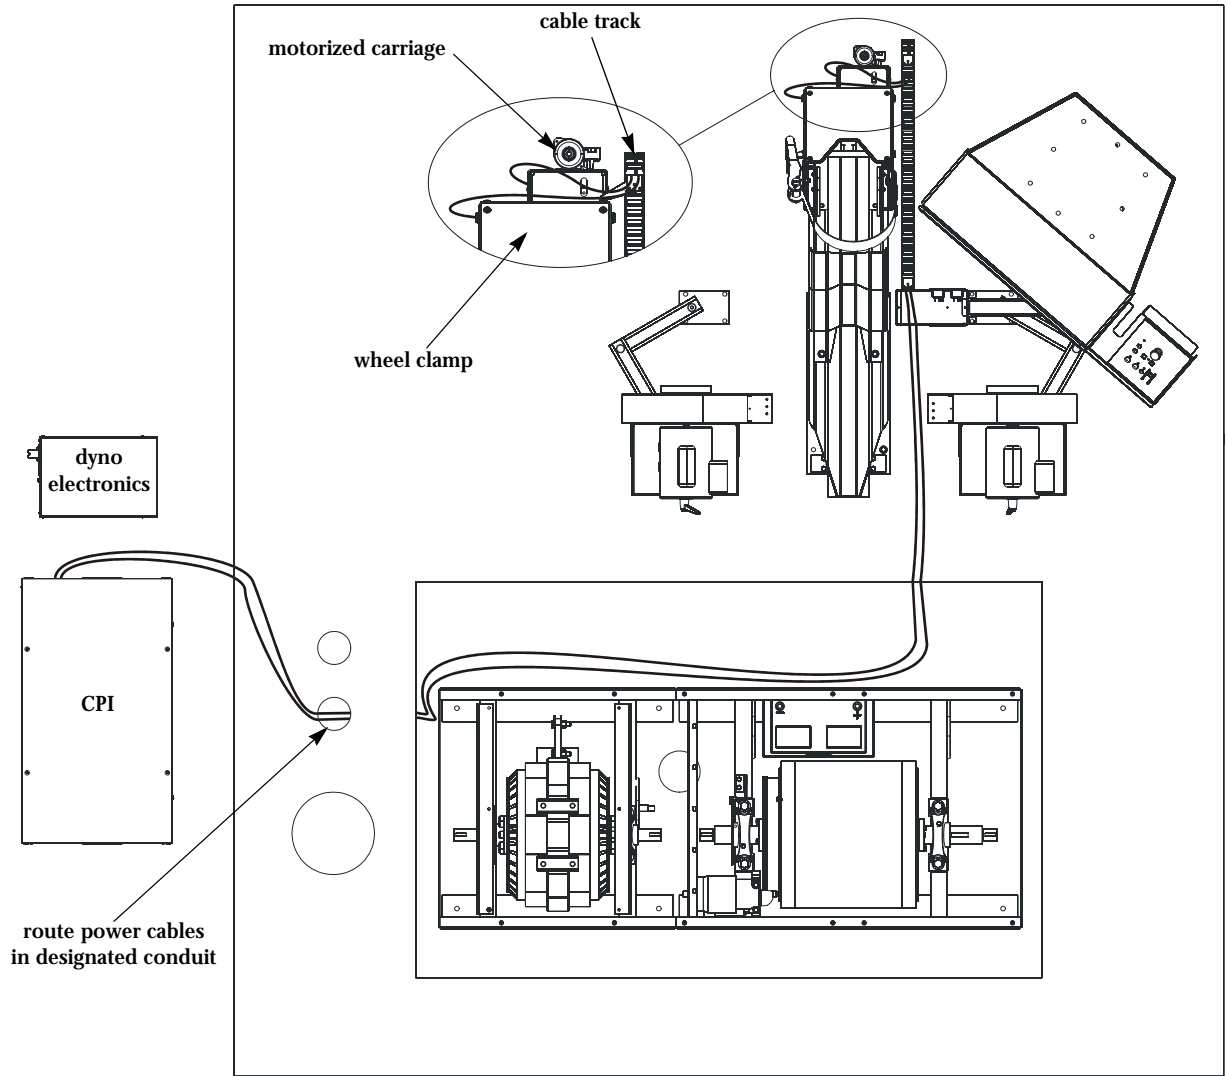

Figure 1-20: Route the Motorized Carriage and Wheel Clamp Cables
- 1 Route the motorized carriage cable (P/N 76950314) from the CPI through the designated power pit conduit, through the pit, and out of the pit as shown in Figure 1-20.
- 3 From the pit, route both cables through the junction box as shown in Figure 1-20.